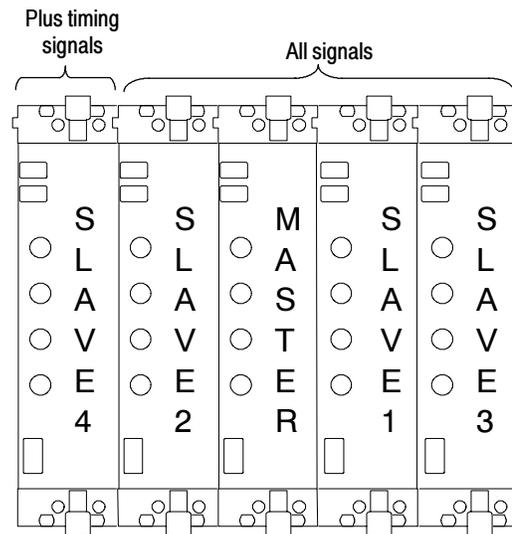

Figure 1-1: Master and Slave module configuration
- The terms “Master” and “Slave” refer to modules that are located in numbered slots (see Figure 1-1 on page 1-2).
The modules must be configured and merged as shown in Figure 1-1. The memory depth is chosen automatically based on the shallowest memory depth of the four modules.
The term *Master module* refers to the middle module of a 5-wide module merge. The term *Slave module* refers to the modules to the left or right of the master module of a 4- or 5-wide module merge. Figure 1-1 shows the configuration for a 4- or 5-wide module merge.